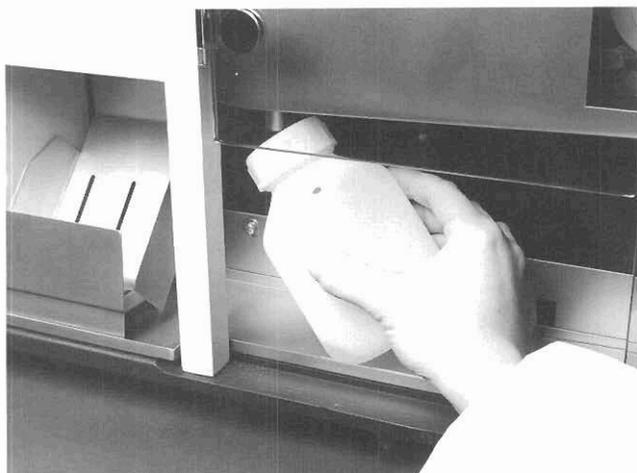

Figure 2-2
8. Fit the waste bottle onto the waste fluid spout by tilting the bottle slightly until the spout fits into the opening in the lid of the waste bottle (Figure 2-2).